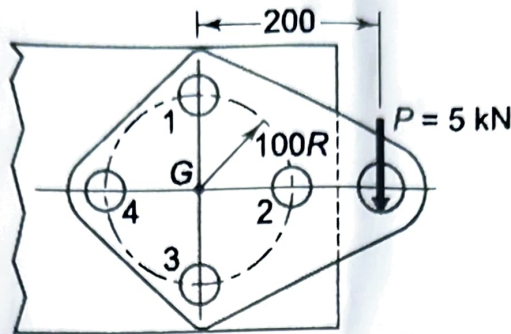

Fig. 4. Riveted Joint (All dimensions are in mm)
8. A riveted joint, consisting of four identical rivets, is subjected to an eccentric force of 5 kN as shown in Fig. 4. Determine the diameter of rivets, if the permissible shear stress is 60 N/mm^2 . [10]